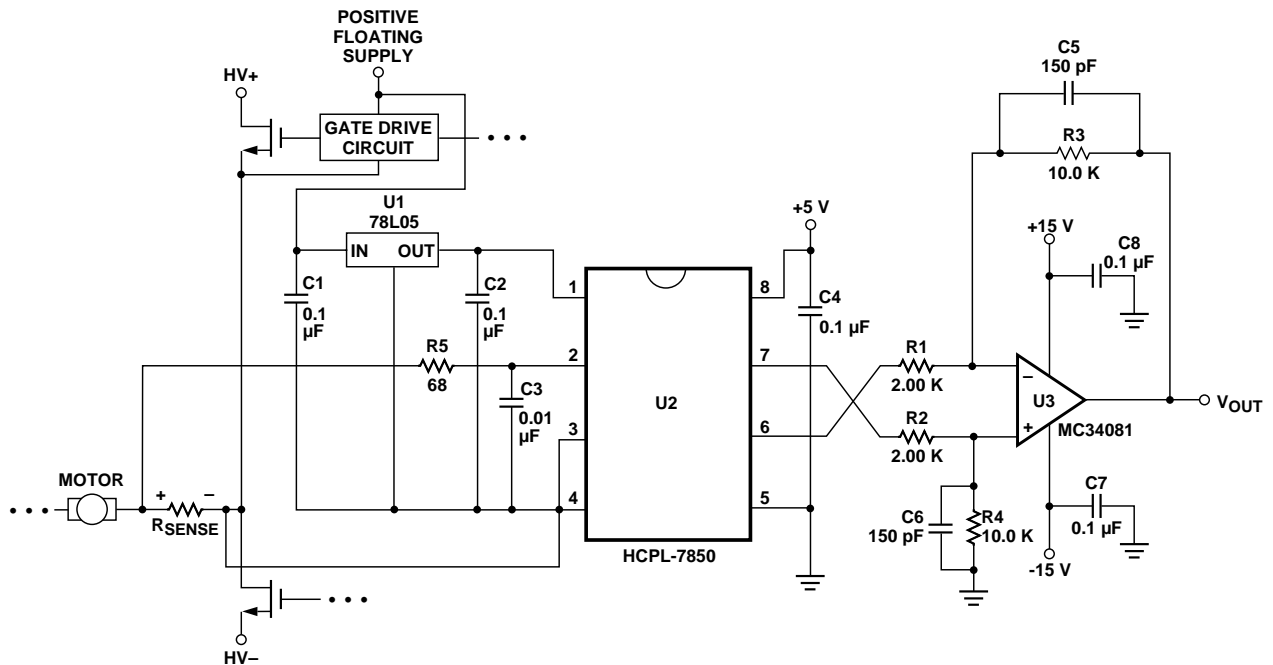

Figure 24. Recommended Application Circuit.
- CMR (also known as IMR or Isolation Mode Rejection) specifies the minimum rate of rise of a common mode signal applied across the isolation boundary at which small output perturbations begin to occur. These output perturbations can occur with both the rising and falling edges of the common mode waveform and may be of either polarity. A CMR failure is defined as a perturbation exceeding 200 mV at the output of the recommended application circuit (Figure 24). See Applications section for more information on CMR.
The recommended application circuit is shown in Figure 24. A floating power supply (which in many applications could be the same supply that is used to drive the high-side power transistor) is regulated to 5 V using a simple three-terminal voltage regulator (U1). The voltage from
As shown in Figure 24, a 0.1  $\mu\text{F}$  bypass capacitor (C2, C4) should be located as close as possible to the input and output power supply pins of the HCPL-7850. The bypass capacitors are required because of the high-speed digital nature of the signals inside the isolation amplifier. A 0.01  $\mu\text{F}$  bypass capacitor (C3) is also recommended at the input pin(s) due to the switched-capacitor nature of the input circuit. The input bypass capacitor should be at least 1000 pF to maintain gain accuracy of the isolation amplifier.
The recommended method for connecting the isolation amplifier to the shunt resistor is shown in Figure 24. Pin 2 ( $V_{IN+}$ ) is connected to the positive terminal of the shunt resistor, while pin 3 ( $V_{IN-}$ ) is shorted to pin 4 (GND1), with the power-supply return path functioning as the sense line to the negative terminal of the current shunt. This allows a single pair of wires or PC board traces to connect the isolation amplifier circuit to the shunt resistor. In some applications, however, supply currents flowing through the power-supply return path may cause offset or noise problems. In this case, better performance may be obtained by connecting pin 3 to the negative terminal of the shunt resistor separate from the power supply return path. When connected this way, both input pins should be bypassed. Whether two or three wires are used, it is recommended that twisted-pair wire or very close PC board traces be used to connect the current shunt to the isolation amplifier circuit to minimize electromagnetic interference to the sense signal.
The recommended application circuit (Figure 24) includes a post-amplifier circuit that serves three functions: to reference the output signal to the desired level (usually ground), to amplify the signal to appropriate levels, and to help filter output noise. The particular op-amp used in the post-amp is not critical; however, it should have low enough offset and high enough bandwidth and slew rate so that it does not adversely affect circuit performance. The offset of the op-amp should be low relative to the output offset of the HCPL-7850, or less than about 5 mV.
To maintain overall circuit bandwidth, the post-amplifier circuit should have a bandwidth at least twice the minimum bandwidth of the isolation amplifier, or about 200 kHz. To obtain a bandwidth of 200 kHz with a gain of 5, the op-amp should have a gain-bandwidth greater than 1 MHz. The post-amplifier circuit includes a pair of capacitors (C5 and C6) that form a single-pole low-pass filter. These capacitors allow the bandwidth of the post-amp to be adjusted independently of the gain and are useful for reducing the output noise from the isolation amplifier (doubling the capacitor values halves the circuit bandwidth). The component values shown in Figure 24 form a differential amplifier with a gain of 5 and a cutoff frequency of approximately 100 kHz, and were chosen as a compromise between low noise and fast response times. The overall recommended application circuit has a bandwidth of 66 kHz, a rise time of 5.2  $\mu$ s and a delay to 90% of 8.5  $\mu$ s.